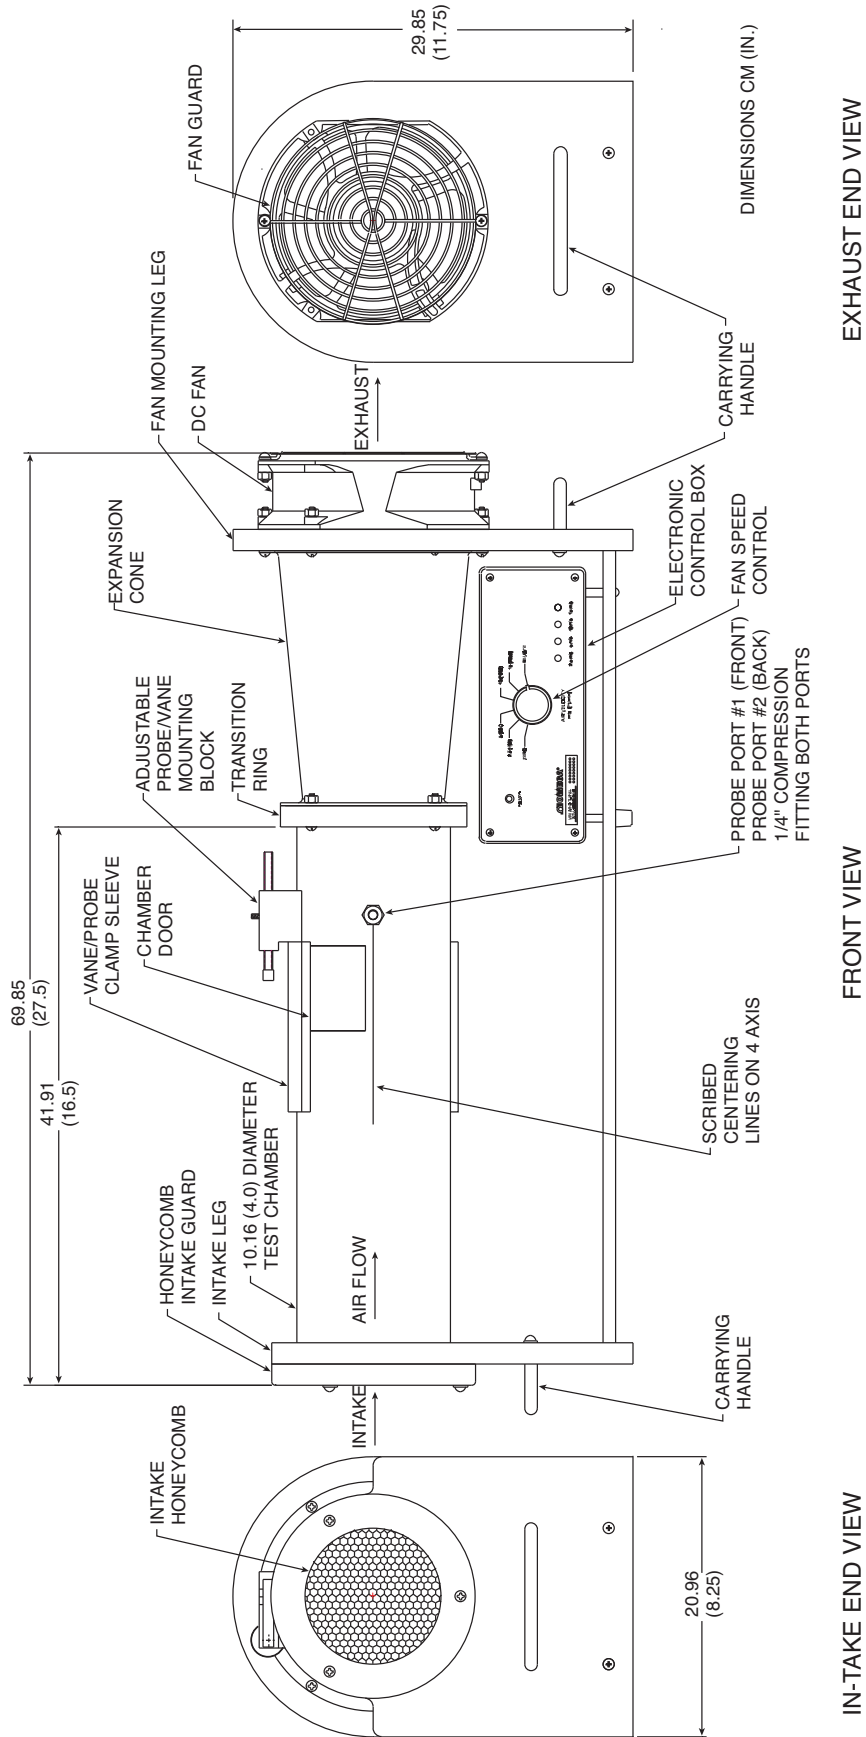
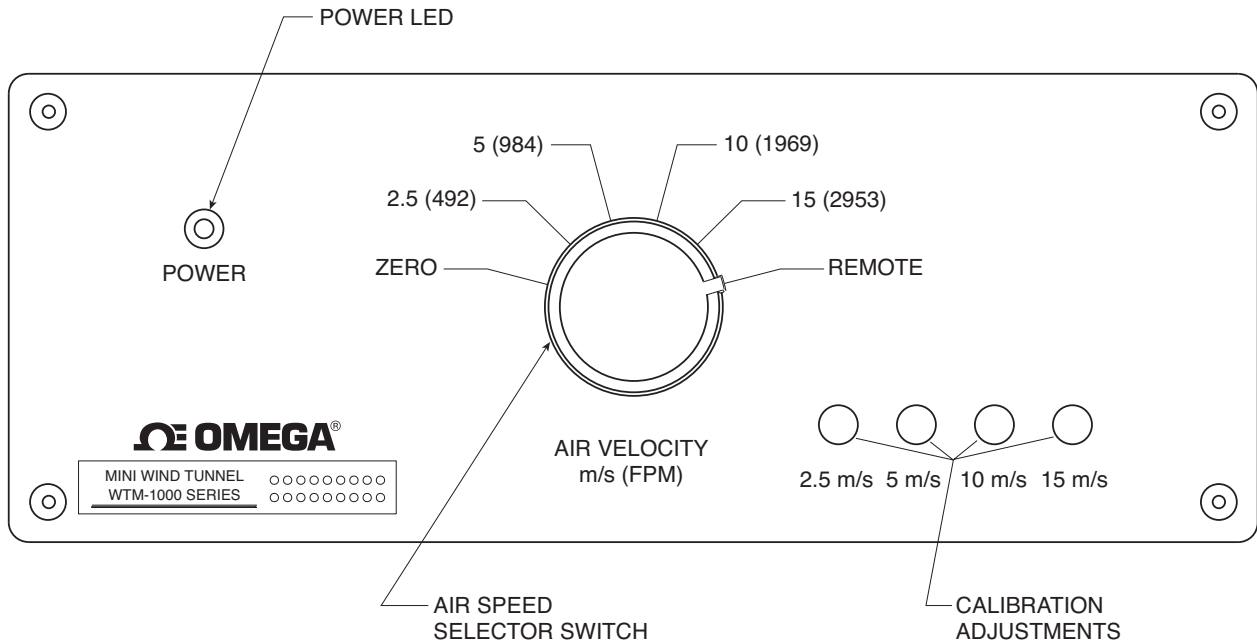
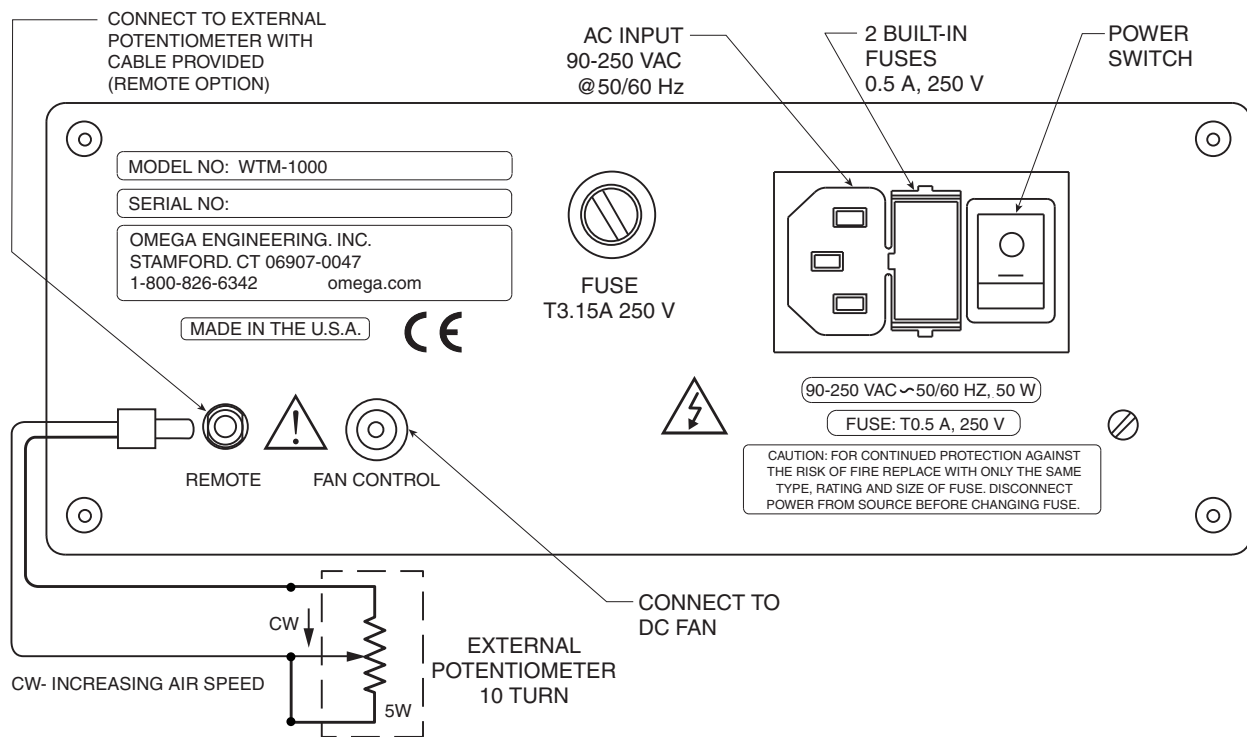

Figure 1 - Important Components of Mini Wind Tunnel and Overall Dimensions
Figure 2 -Front Panel, Control Unit Box
Figure 3 -Back Panel, Control Unit Box
Figure 1- Illustrates the important components of the wind tunnel as well as it's overall dimensions (page 3). Figure 2 - Shows the front panel of the Electronic Control Box (page 4). Figure 3 - Shows the rear panel of the Electronic Control Box (page 4).
- 2- Insert the air probe into Port #1 as shown in Fig 1. Port #2 is used to insert a reference air probe if desired.